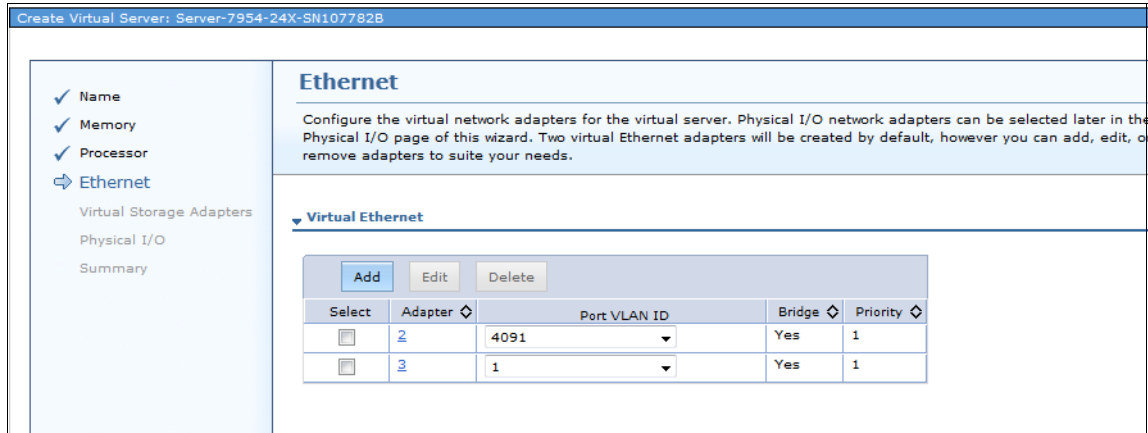

Figure 8-15 Adding a virtual Ethernet adapter
4. When you return to the main virtual Ethernet window, click **Add** as shown in Figure 8-15 to add a virtual Ethernet adapter. In a dual VIOS environment, a control channel is required that acts as a heartbeat. This new adapter servers that purpose.